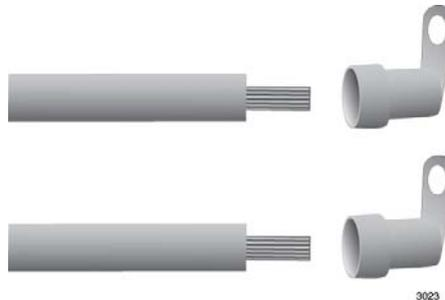

Figure 123. Attaching the Power Wires to the Right Angle Terminals
3. Insert the power wires into the right angle terminals included with the power supply and use a crimping tool to secure the wires to the terminals. See Figure 123,